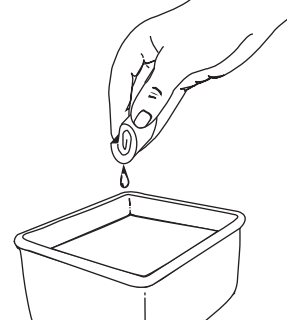

Fig. 29
3. Wash the filter in detergent and water (Fig. 29). Rinse the filter thoroughly and allow it to dry.